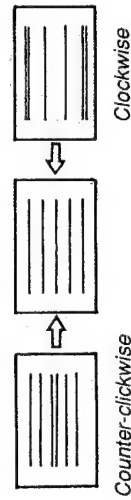

Fig. 29-9.
2. Adjust V. HEIGHT by turning DA board RV32 as shown in Fig. 29-9.